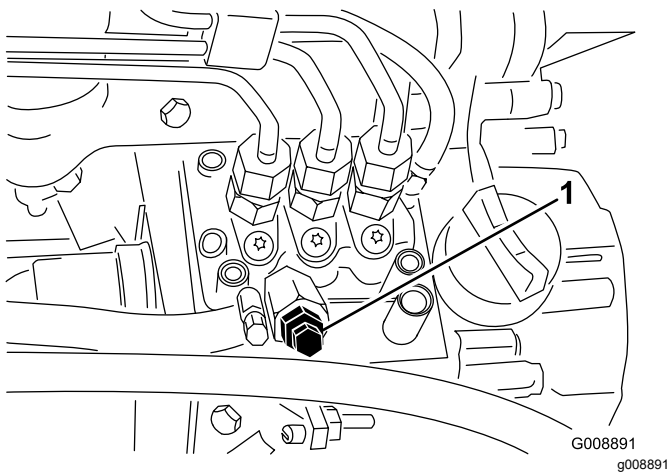

Figure 34
4. Open the air-bleed screw on the fuel-injection pump (Figure 34).